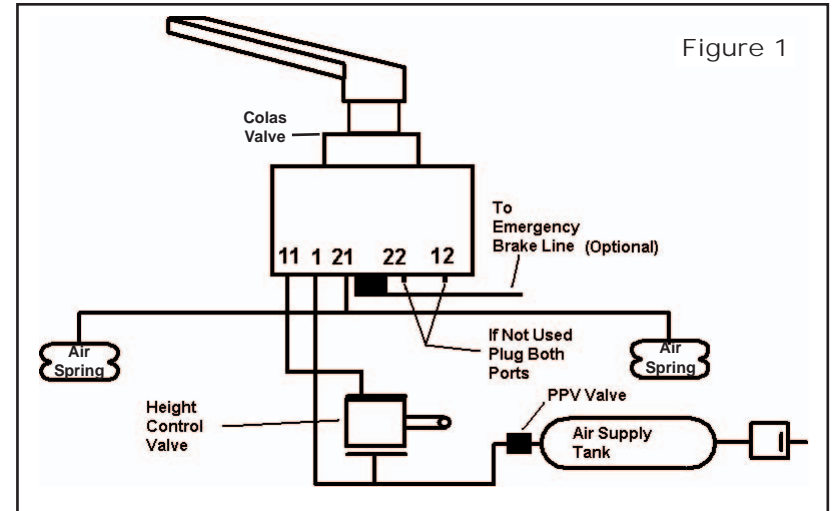

Figure 1
2. Connect the delivery port(s) of the Height Control Valve to the supply port(s) 11 and/or 12 on the Colas Valve. (See Figure 1)
3. Connect the Corresponding delivery port(s) to the air springs bags. (See Figure 1)
4. Connect port 1 on the Colas Valve directly to the air supply down stream of the PPV. (See Figure 1)
5. Connect the middle port on the Colas Valve to the emergency break line. This feature is optional and is used for automatically resetting the valve back to the “drive” position with release of the emergency brake. (See Figure 1)